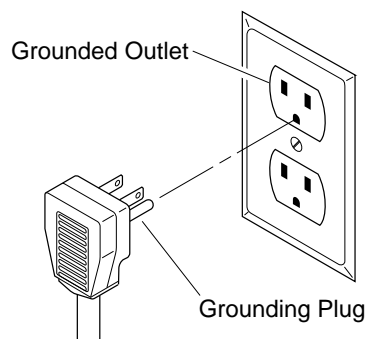
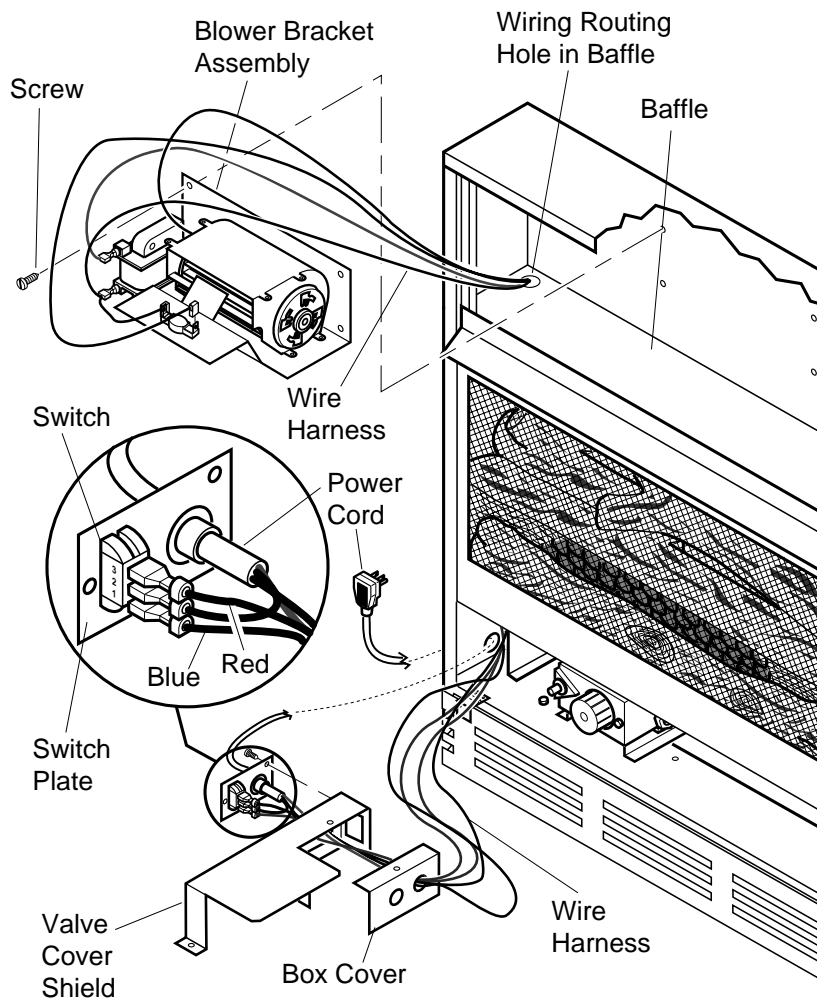
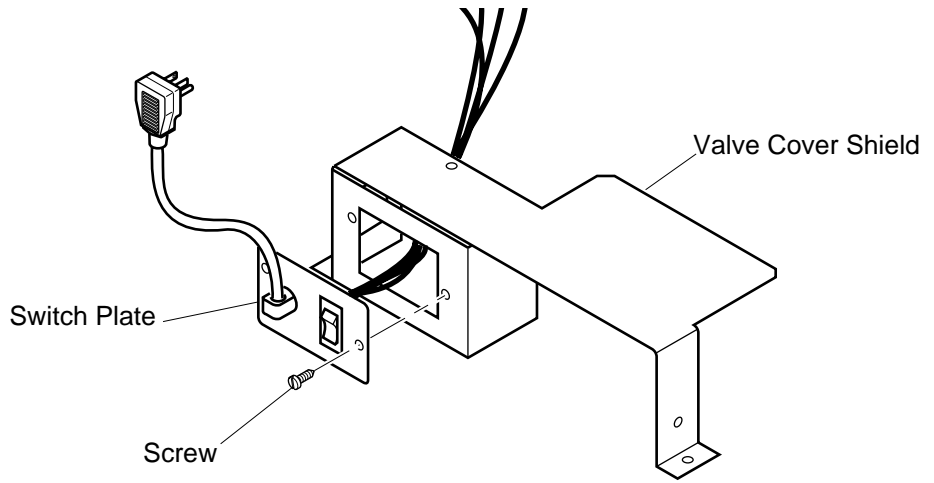

Figure 1 - Grounding Plug
Figure 4 - Installing Blower Bracket Assembly
Figure 5 - Installing Switch Plate to Valve Cover Shield
Fan accessory must be grounded. Fan comes with a three-prong, grounding plug as shown in Figure 1. The plug is your protection against electrical shock. Plug it into a standard, three-hole, grounded, outlet. If cord needs replacing, use only a cord with a three-prong, grounding plug.
3. Note the wire locations on back of AUTO/OFF/ON switch. The terminals on back of switch are numbered 1, 2, and 3. Carefully remove red wire from terminal 1 and blue wire from terminal 3. Black wire can remain on middle terminal 2 (see figure 4).
5. In top of the heater cabinet, locate the four mounting holes on the outer casing. Align these four holes with those on the blower bracket assembly. Attach blower bracket assembly to the outer casing with 4 #10 screws provided (see Figure 4).
6. Route the wire harness through the hole in left side of baffle. Pull wire harness through lower opening above where the valve shield was removed. (see Figure 4).
7. Insert the 4 wire harness into one of the round holes in the rear of the valve cover shield and through the rectangular hole in the front of shield (see figure 4).
9. Install the switch plate on the valve cover shield with 2 #10 screws provided (see Figure 5, page 3). Reinstall the valve cover shield. Route power cord out of the cabinet by inserting it through the bushing on the outer casing (see Figure 4). Plug fan kit into 120-Volt grounded power supply and test operation. *Note:* When switch is in the AUTO position, the fan will start after the heater has run for a few moments. The fan will continue to run for several moments after the heater has been turned off. When switch is in the ON position, the fan will run until turned to OFF. Reinstall upper louver assembly (see Figure 1, page 1) and close lower louver door.
7. Reinstall upper louver assembly (see Figure 1, page 1) and close lower louver.